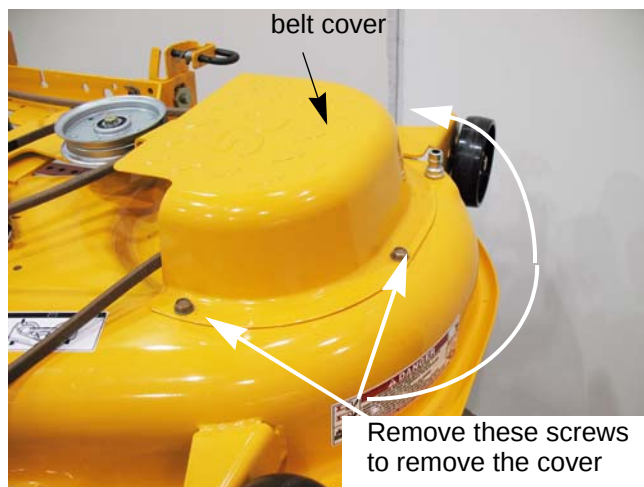

Figure 8.11
4. To access the outer spindles, remove the belt covers. See Figure 8.11.